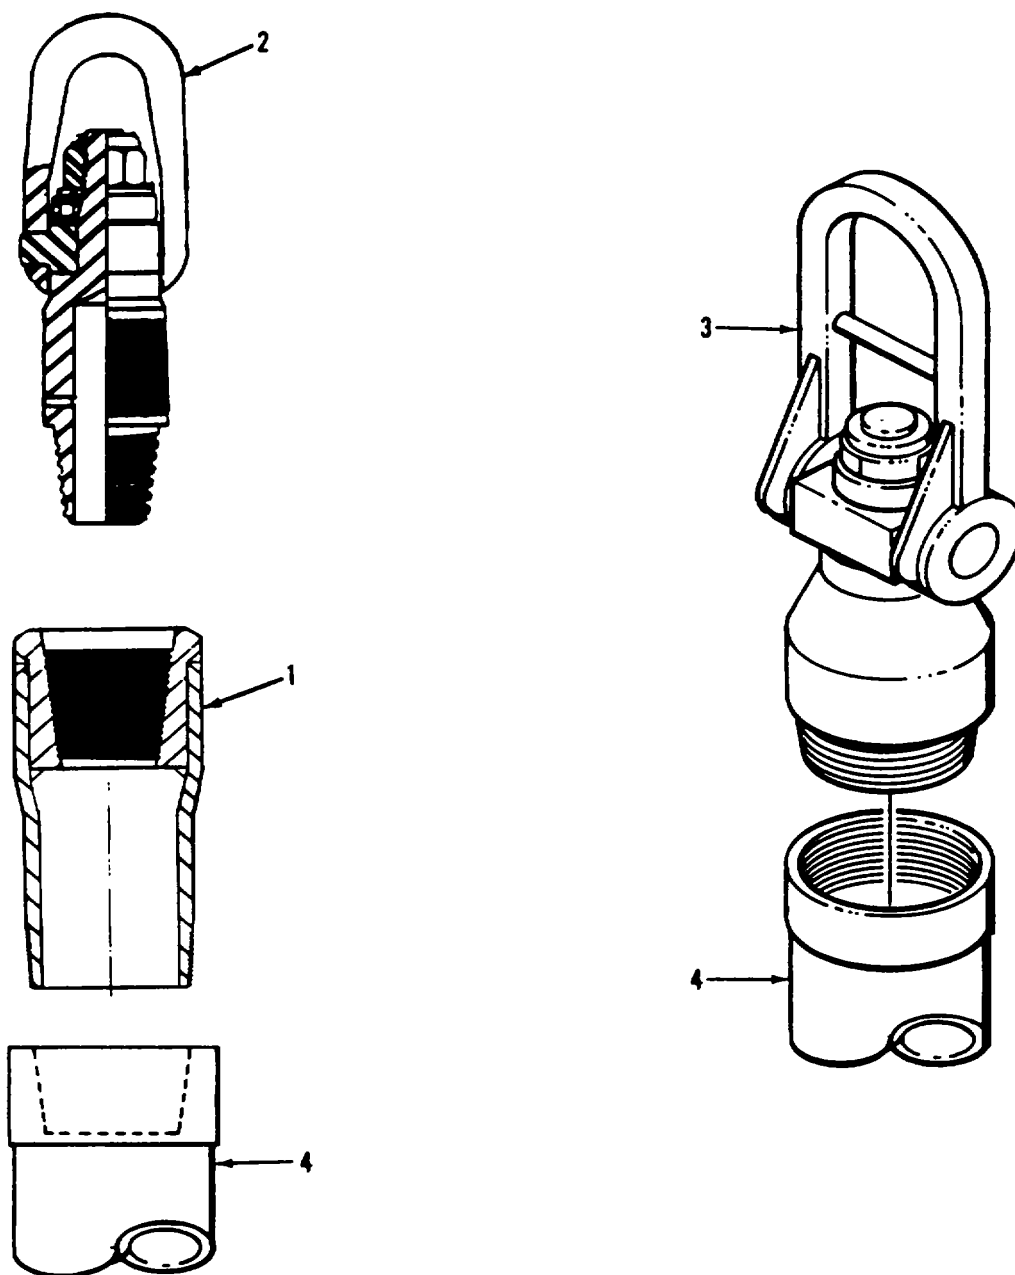

Figure 2-57. Hoisting Plug with Adapter (168F530) and Casing Hoisting Plug (KT-1992-TRSC)
- (5) Set the steel casing by either installing the appropriate casing adapter (1, Figure 2-57) in the casing coupling (4) and screwing hoisting plug (2) into adapter, or screw the appropriately sized hoisting plug (3) into casing coupling. The casing adapters furnished in auxiliary kit (168F530) and hoisting plugs furnished in auxiliary kit (KT-1992-TRSC) are as follows: